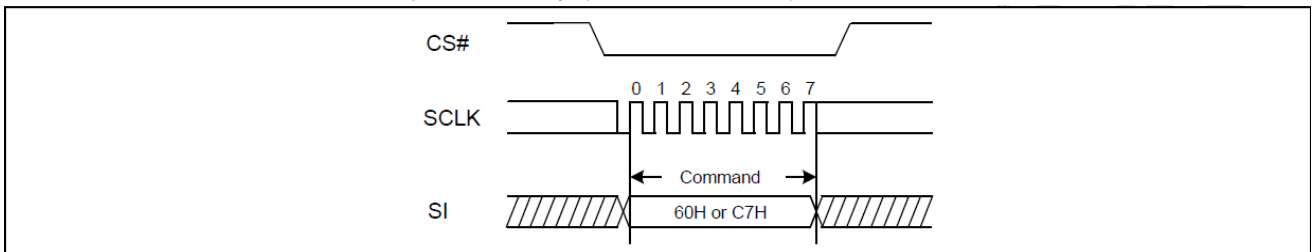

Figure10. Chip Erase Sequence Diagram
The Chip Erase command sequence: CS# goes low send Chip Erase command CS# goes high. The command sequence is shown in Figure10. CS# must be driven high after the eighth bit of the command code has been latched in, otherwise the Chip Erase command is not executed. As soon as CS# is driven high, the self-timed Chip Erase cycle (whose duration is tCE) is initiated. While the Chip Erase cycle is in progress, the Status Register may be read to check the value of the Write In Progress (WIP) bit. The Write In Progress (WIP) bit is 1 during the self-timed Chip Erase cycle, and is 0 when it is completed. Write Enable Latch (WEL) bit is reset to 0 at the end of the Chip Erase cycle. The Chip Erase (CE) command is ignored if one or more sectors are protected by (BP2, BP1, BP0) bits.